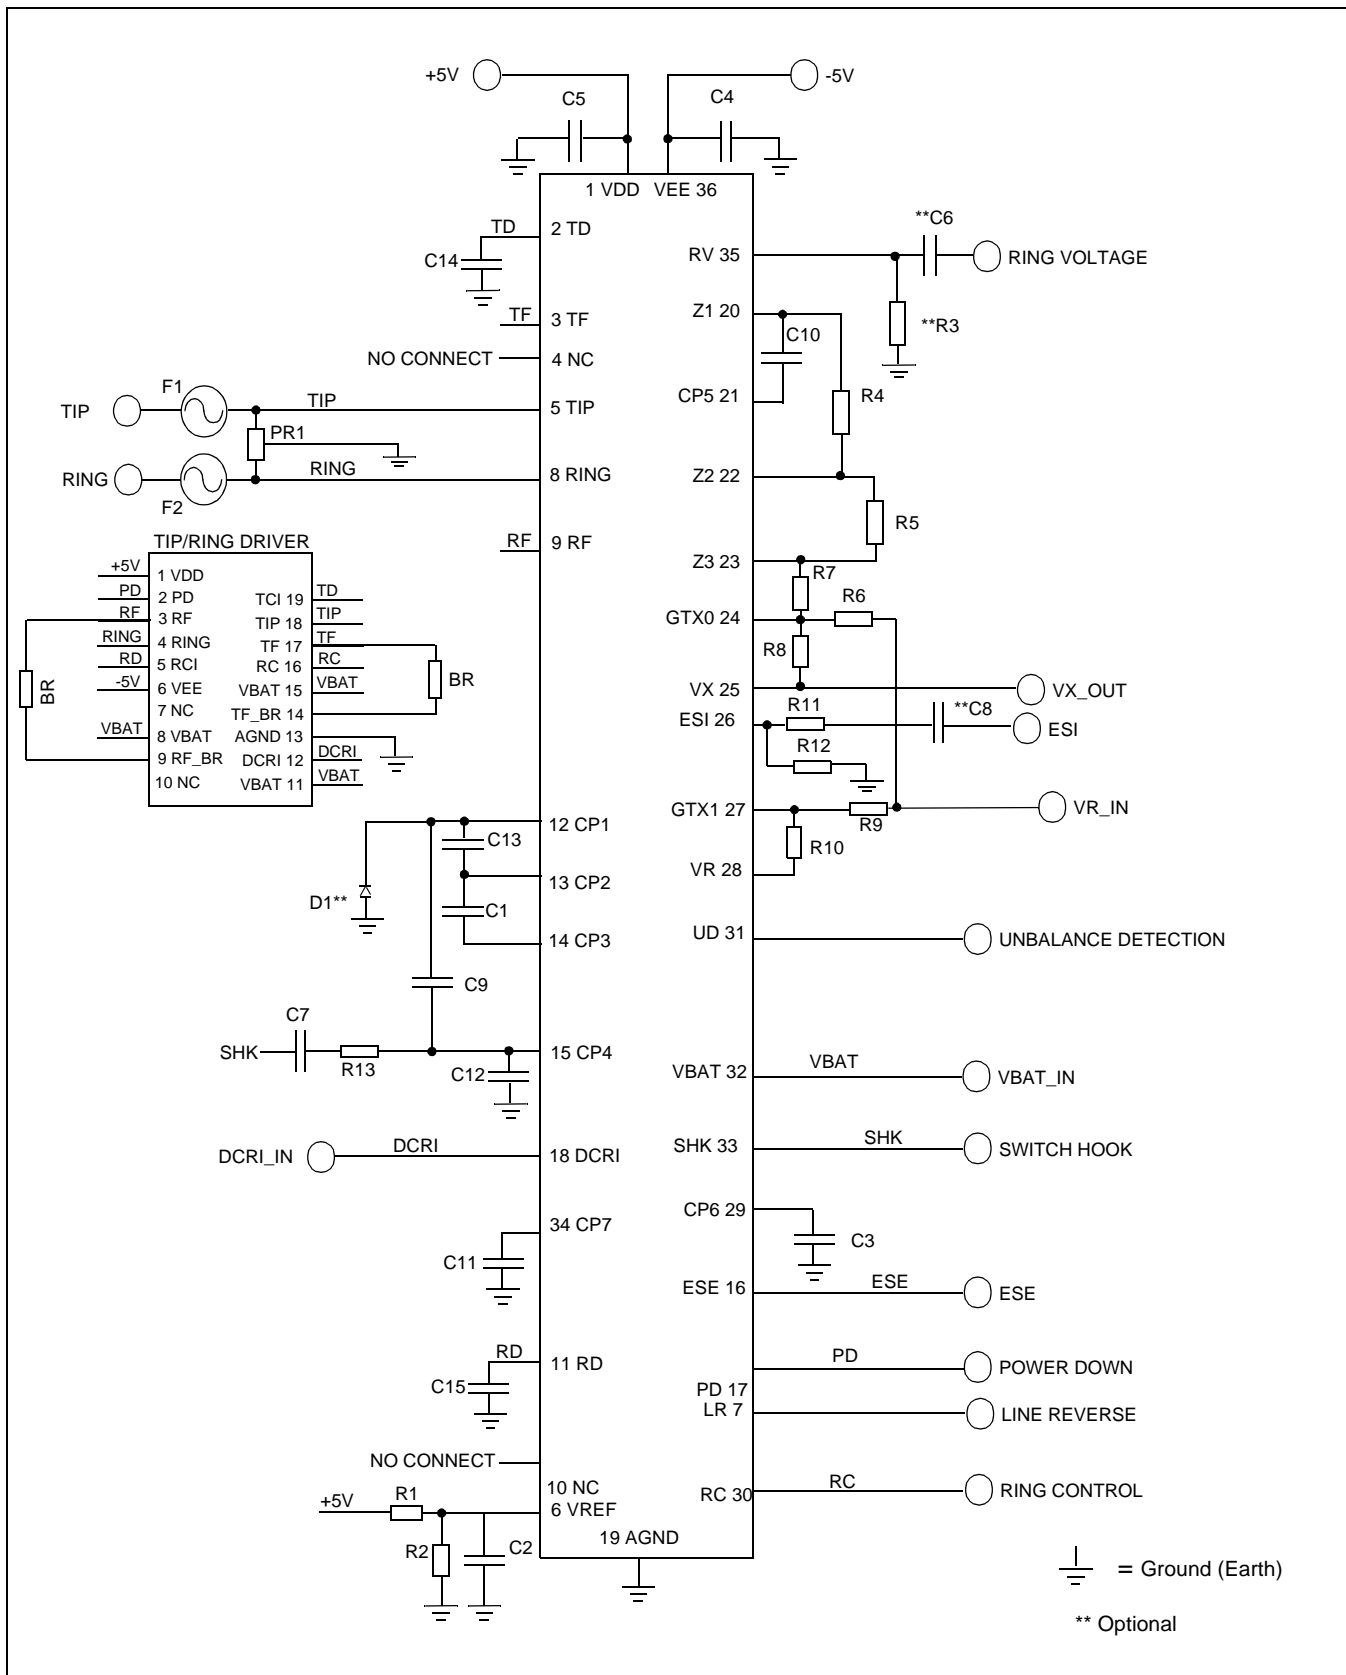

Figure 4 - Typical Application with a Resistive 600 ohm Line Impedance
Balanced Ringing is applied to the line by setting RC (pin 30) to +5V and connecting the ringing signal (20Hz) to RV (pin 35) as shown in Figure 4. A 1.2Vrms input will give approximately 60Vrms output across Tip and Ring, sufficient for short loop SLIC applications. The SLIC is capable of detecting an Off Hook condition during ringing by filtering out the large A.C. component. A 0.47 $\mu$ F cap should be connected to pin CP6 (pin 29) to form such filter. This filter allows a true Off Hook condition to be monitored at SHK (pin 33). When an Off Hook condition is detected by the SLIC, it will remove the 20Hz AC ringing voltage and revert to constant current mode. The local controller will, however, still need to deselect RC (set it to 0V).
**Component List\* for a Typical Application with a Resistive 600Ω Line Impedance** - Refer to Figure 4 for component designation and recommended configuration
Figure 4 shows three possible combinations of protection. Depending on the application, the user can select whether to use a resettable or non-resettable protection scheme.
Note 3: For a 1.2Vrms 20Hz input at RV terminal (Figure 4) and with RC pin set to +5V.